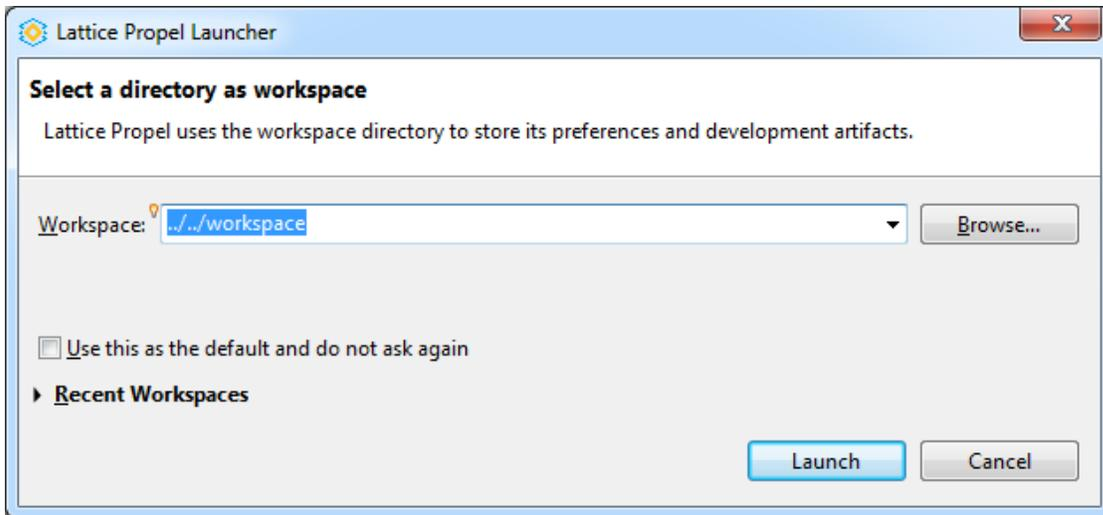

Figure 2.47. Lattice Propel Launcher Wizard
1. Click **Run Propel** icon  from the Propel Builder GUI Toolbar. Lattice Propel Launcher (Figure 2.47) opens.